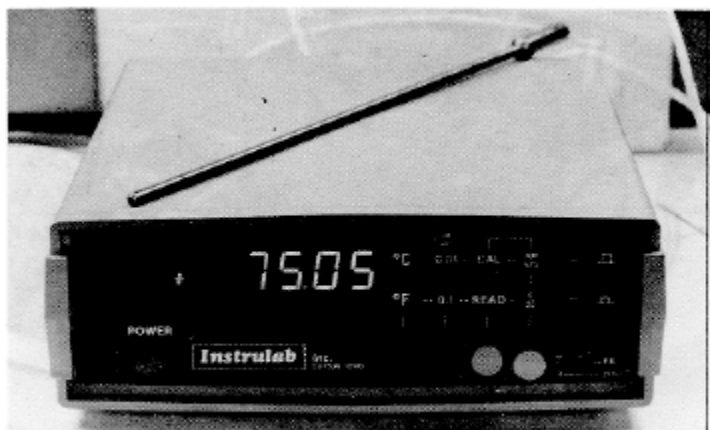

Figure 20. Temperature measurement system type 4100 RTD DT1.
6. TEMPERATURE MEASUREMENT SYSTEM TYPE 4100 (Refer to figure 20)